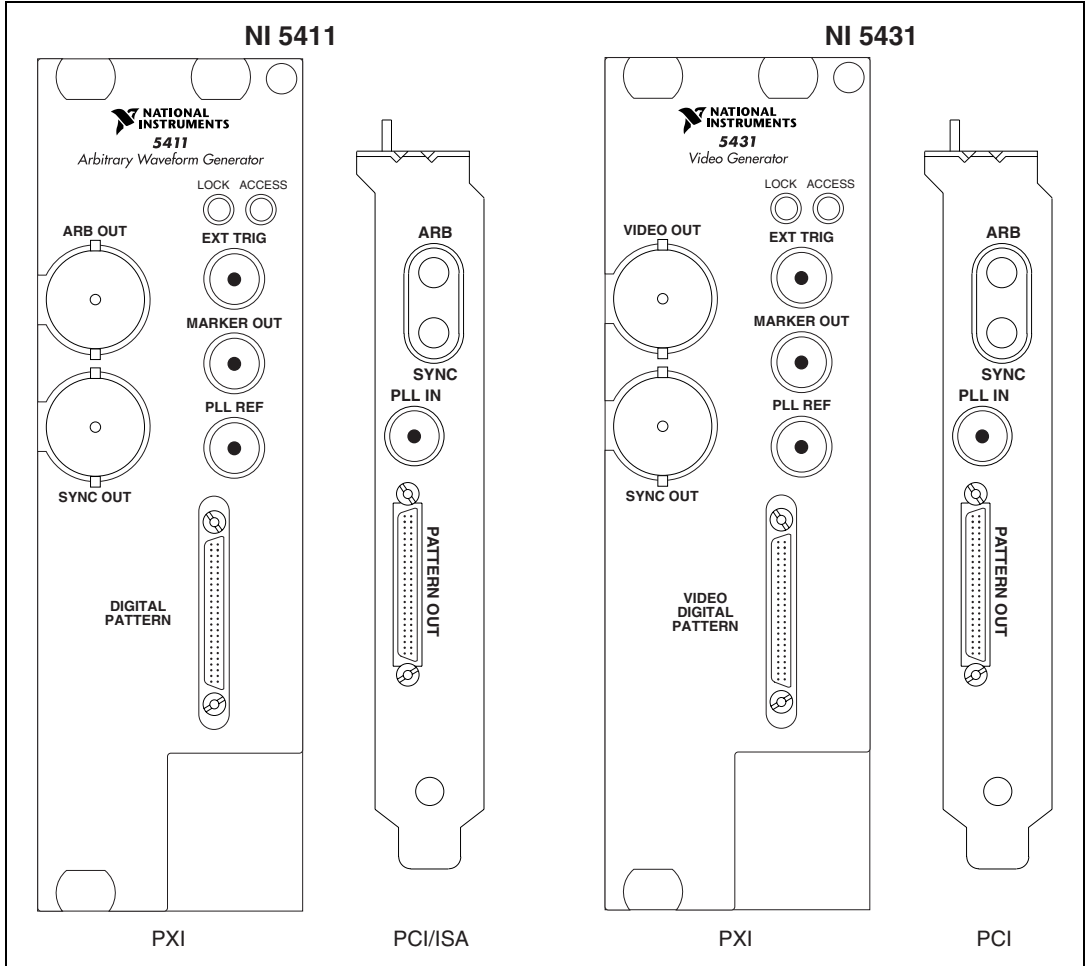

Figure 3-1. NI 5411/5431 I/O Connectors
3. Looking at Table 3-1 and Figure 3-1 as guides, make the appropriate connections to measure the output from the constants you want to calibrate.
Figure 3-1 shows the NI 5411/5431 I/O connectors.